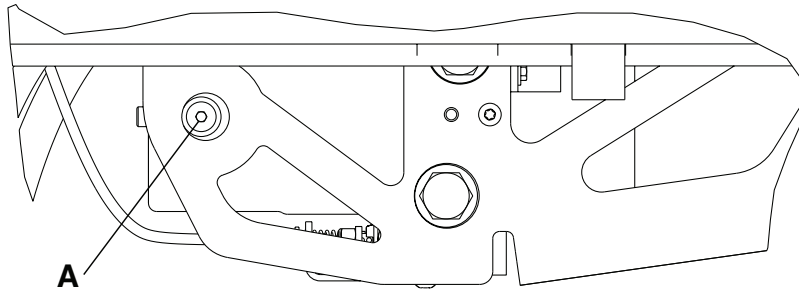

Figure 6 – Hydraulic assembly reservoir
3. Using a 3/16" hex wrench, remove the port plug (A) (Figure 6).